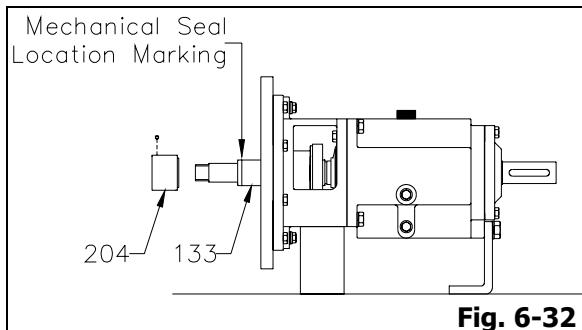

Fig. 6-32
- For pump end mechanical seal (204) furnish with jam nuts, where abutment ring (463) is not available, unscrew the mechanical seal jam nuts, hold shaft sleeve (133) in place and remove rotary
portion of pump end mechanical seal (204) from shaft sleeve (133) (Fig. 6-32).